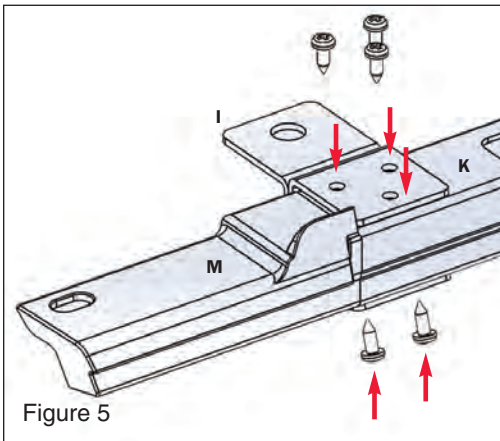

Figure 5
Slide the Left Front Door Surround Bracket (I) to 1/8" from the edge of the Left Hand Front Door Bar (K) as shown. Fasten Front Door Surround Bracket (I) to Left Front Door Bar (K) and through the Left Front Plastic (M). Drill pilot holes using a 7/64" bit and fasten using 5 Self-Tapping Screws (G). (See FIG 5) Hint: It's easier and more accurate to